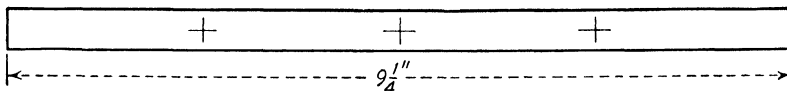

Fig. 20.
A. Division by Whole Numbers. Suppose that, while working on some job, a mechanic had to shear the piece of metal shown in Fig. 20 into 4 equal parts. The easiest way of doing this would be to divide $9\frac{1}{4}$ by 4, and then mark the points with the help of a rule.